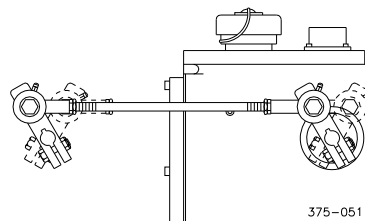

Figure 1. Linear Linkage
3. A linear linkage arrangement (see Figure 1) should be used unless the fuel control is non-linear. Most fuel controls except carburetors are linear.